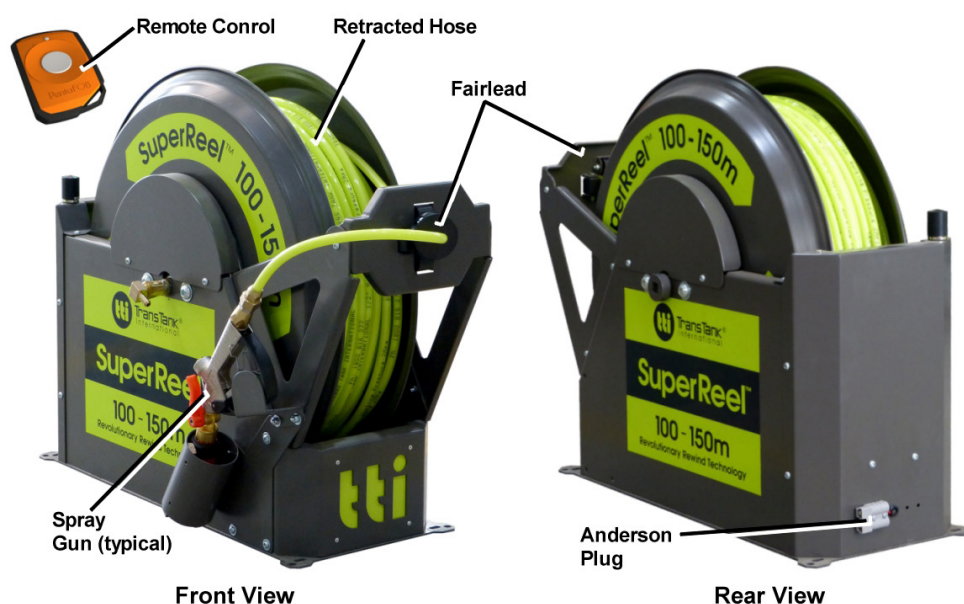

Figure 7 – SuperReel Operation
- If fitted with the optional 50m SuperReel, proceed as follows, refer to Figure 7: